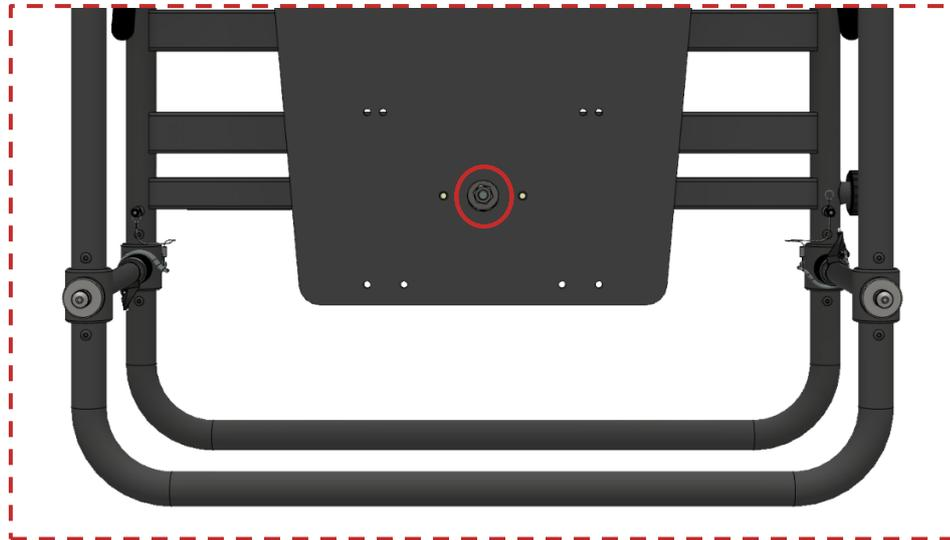

Figure 26 Nut on centre top side which is sealed with red colour wax
- On the three screws + nuts presented on the above two pictures (Figure 25 and Figure 26) red color sealing wax was applied to be sure that the nuts will always be on the same position and no one will try to tighten or loose them.
Except for the three nuts described on the previous section (see Figure 25 and Figure 26), please control, with corresponding tool, that all the other screws are properly tightened.